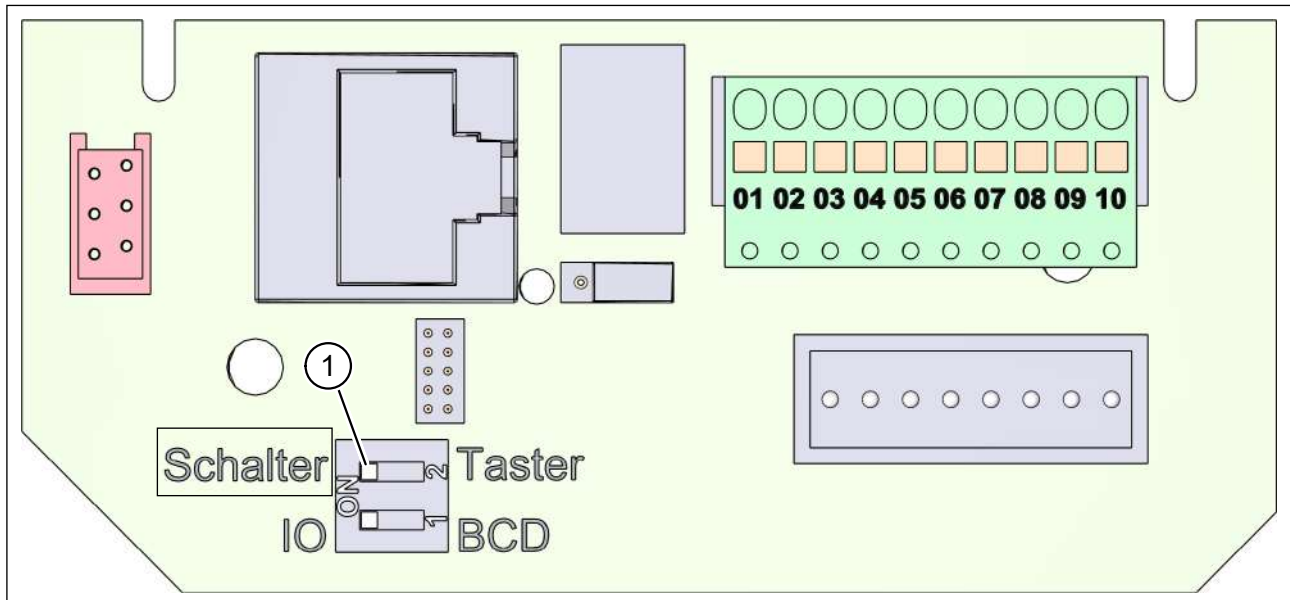

Fig. 36: Connection board in the ventilation unit with terminal assignment
DIP switch 2 (item 1 in Fig. 36) is set to the “Taster (pushbutton)” position at the factory. In association with the three-step rotary switch, DIP switch 2 must be set to the “Schalter (switch)” position.
- Set DIP switch 2 on the connection board to the “Schalter (switch)” position (see item 1 in Fig. 36 on page 54).